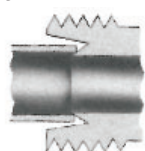

Fig 1
Illustrated below (Fig 1) is the standard tubing, representative of the type used in most conventional applications. This tube and wedge (BA) combination is correct and will allow the tube to be pushed over the wedge and make a satisfactory Self Flare tube joint.